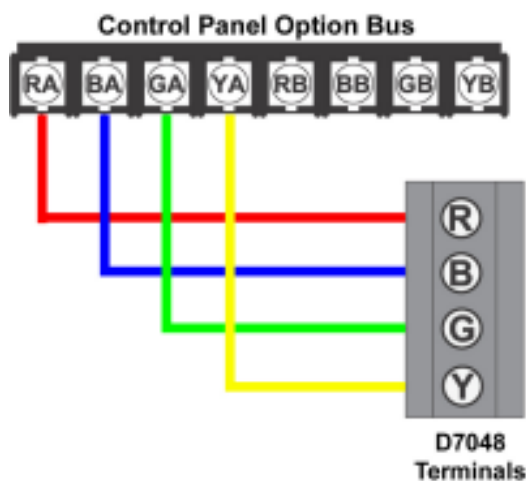

Figure 4: Option Bus Wiring
The D7048(B) is wired to the control panel's option bus. See Figure 4.